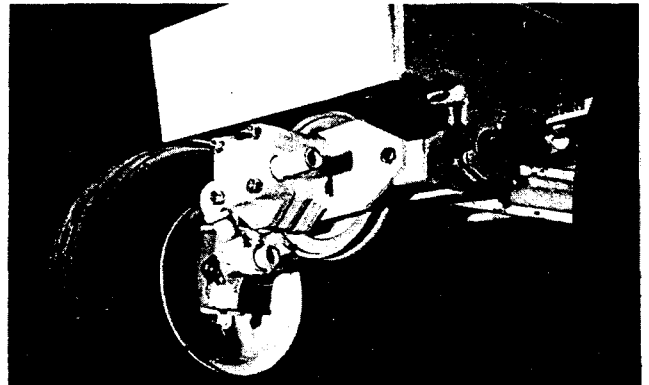

FIG. 3
3. Refer to Fig. 3.
The Pump Unit attaches to the front of the tractor where the locking bar was removed. (see Fig. 3) Bolt into place using (2) $\frac{1}{2}$ x $1\frac{1}{2}$ " Bolts, Lockwashers and Nuts and (2) $\frac{3}{8}$ x $1\frac{1}{2}$ " as shown. Tighten these bolts wrench tight.